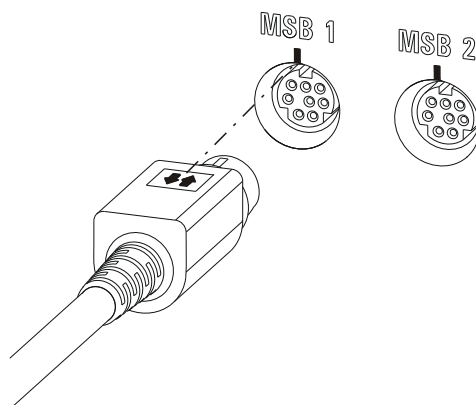

Figure 6 MSB connector
- When making the connection, take care to ensure that the flat part of the MSB plug marked with arrows is pointing in the direction of the marking on the MSB connector (see figure 6, page 17).